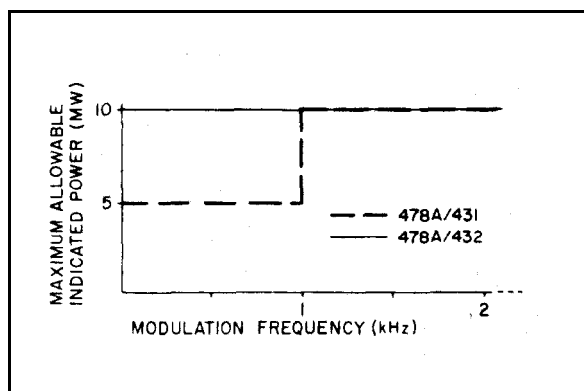

Figure 3. Maximum Power Meter Reading vs Square and Sine -Wave Frequency
16. Square-wave modulation is a special case of pulse modulation, and maximum power-meter reading versus square -wave frequency is illustrated in Figure 3. This figure also holds for sine -wave modulation.